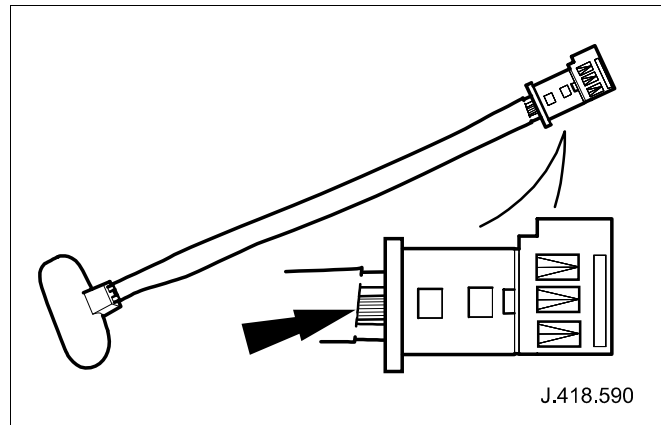

Fig. 2
- 3 Carefully pull back the harness insulation tape at the connector and check to see if there is a braided cable situated between the two harness cables. If not fitted, install new modified cable, part number: XR8 36434. (See Fig. 2)